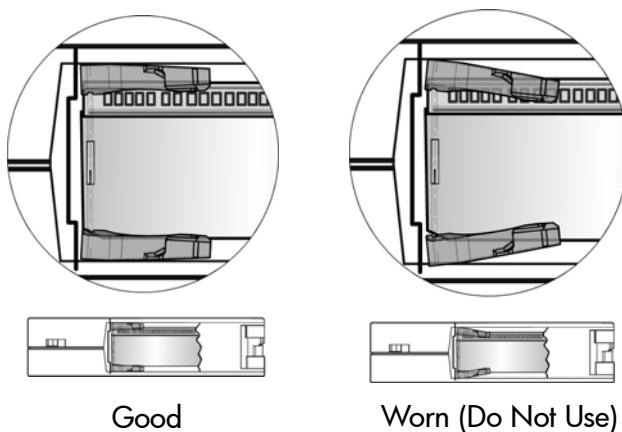

Figure 75 SDLT buckle leaders
- Visually inspect the tape for a broken, unseated, or misaligned tape leader (Figure 75 on page 93).
- Check the leader position by pressing in the door lock to release the cartridge door. While pressing in the door lock, push the tab down to open the door. Be careful not to touch the tape after opening the door. Ensure that the leader is in the correct position (Figure 75 on page 93).